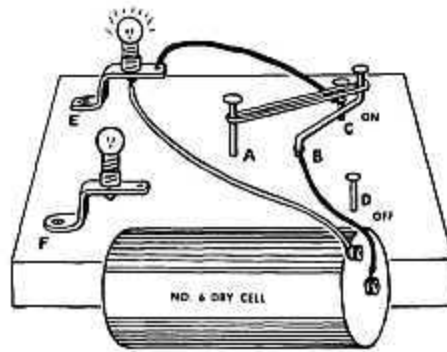

Figure 3 (Closed Circuit)
3. Pound the one-inch nails into the board for a half-inch at points A, C, and D. Use the three-inch nail to make a hole a half-inch deep at B. Put the crank nail in this hole and pound in a little farther. Attach the lamp socket brackets at E and F. Stretch the rubber band as in Figure 3.
4. Lay out the electricity path, the circuit (Figure 3). Use the black wire for the positive side of the circuit (the center pole of battery). Twist it around the switch crank B, and the center pole of battery. Run another piece to the outside terminal of bulb socket at E. Run white piece to negative pole of battery from the other terminal at E.